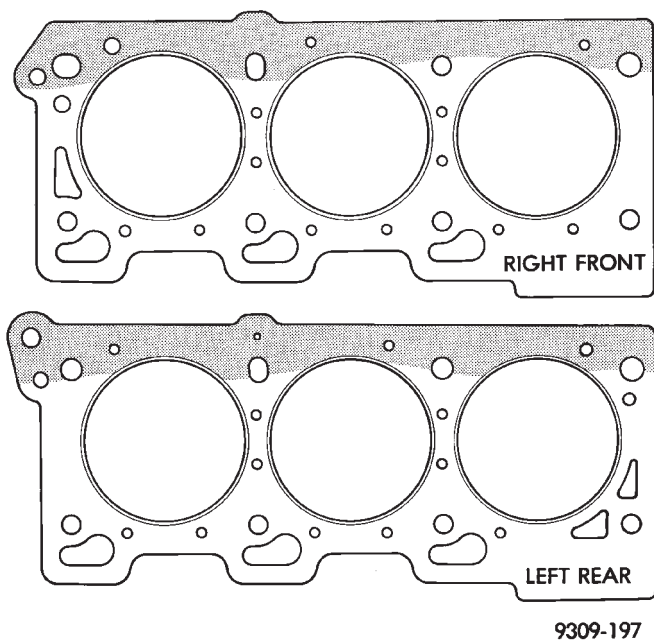
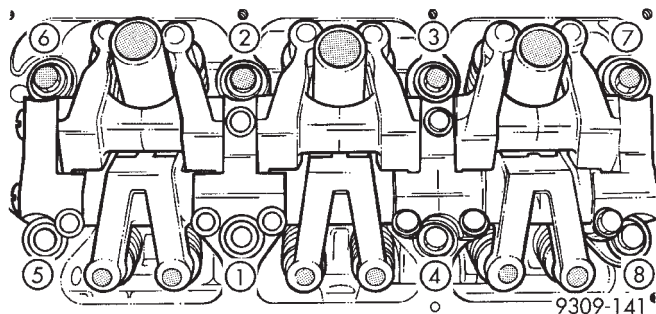

Fig. 18 Cylinder Head Gasket Identification
Fig. 20 Cylinder Head Bolt Tightening Sequence
- (1) Before installing the bolts the threads should be oiled with engine oil.
- (2) Install head gasket over locating dowels be sure the gasket is installed on the correct side (Fig. 18).
- (3) Install cylinder head over dowels.
(4) Tighten the cylinder head bolts in the sequence shown in (Fig. 20). Using the 4 step torque turn method, tighten according to the following values: